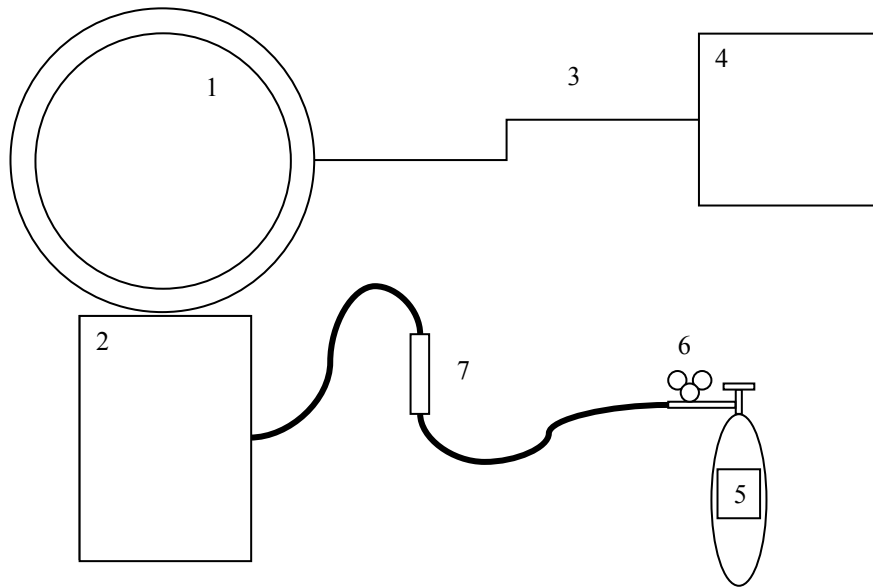

Figure H.1 Typical scheme used for zeroing and calibration
2. Equipment shown in Figure H.1 and in the list of GCM should be used during zeroing and calibration procedure